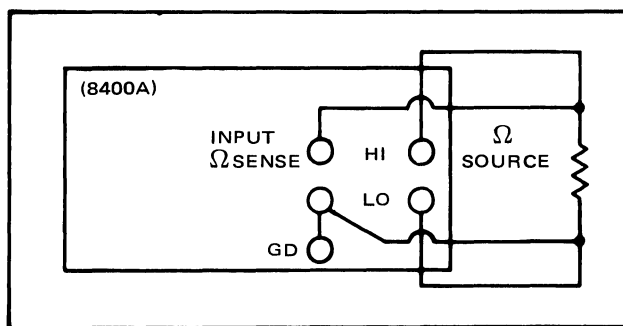

Figure 6-2. EQUIPMENT CONNECTIONS FOR OHMS TEST
6-30. OHMS TEST. The ohms function is checked at full scale on each of four ranges on the DVM. Connect equipment as shown in Figure 6-2. Connect each of the standard resistors in Table 6-4, observing appropriate readout as indicated.
- b. Connect equipment as shown in Figure 6-2.
- d. Connect the resistance indicated in Table 6-6 as shown in Figure 6-2 and perform the corresponding adjustment.